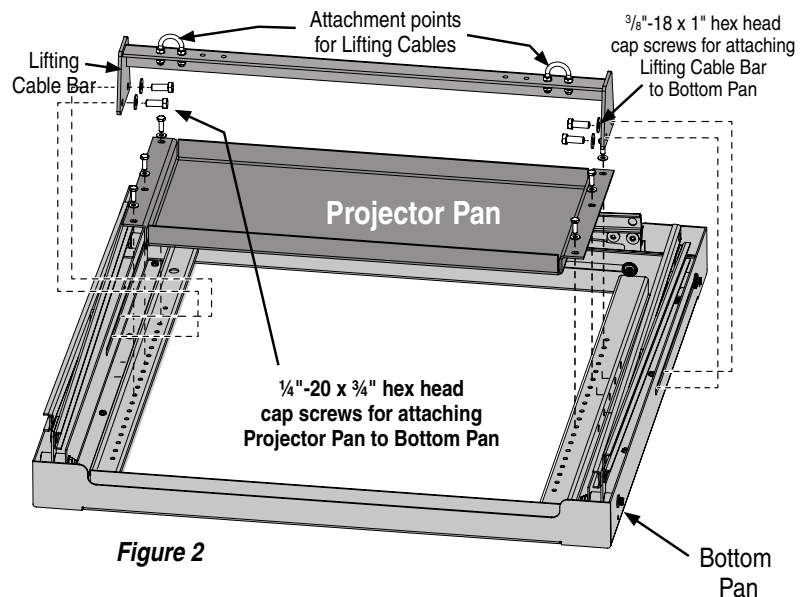

Figure 2
Adjusting for Level or Center of Gravity (See Fig. 2 Below)
- ① Lower unit until the Bottom Pan is resting on a tabletop or other stable and sturdy surface.
- ② Remove Lifting Cable Bar from Bottom Pan (see Fig. 2).
- ③ Remove bolts holding Projector Pan to Bottom Pan (see Fig. 2).
- ④ Remove Projector Pan and set aside.
- ⑤ Place new Projector Pan with Universal Mount into place.
- ⑥ Re-attach Projector Pan to Bottom Pan.
- ⑦ Re-attach Lifting Cable Bar to Bottom Pan.